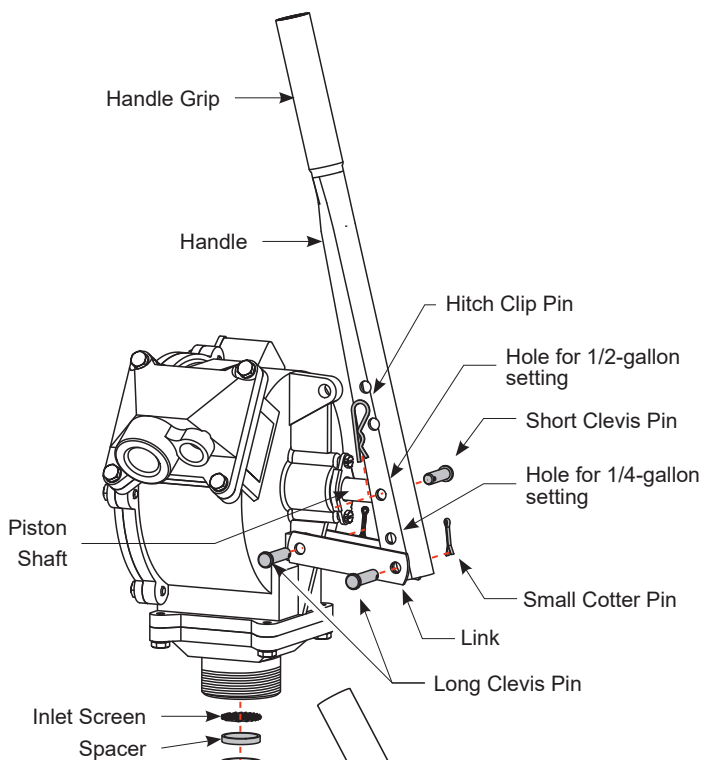
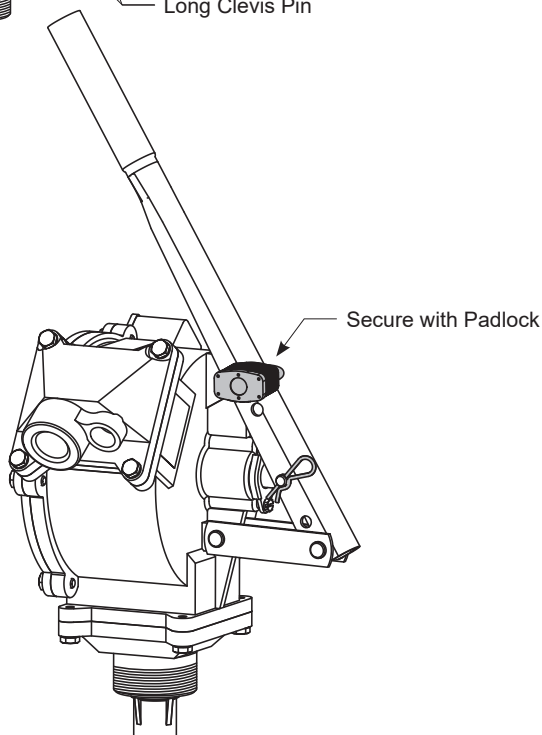

Figure 3
Figure 4
2. Insert the inlet screen (see Figure 3) into the inlet cover.
3. Place the spacer (see Figure 3) in the inlet cover to secure the inlet screen.
Refer to illustrations Figure 3 and Figure 4 on page 8.
2. To install the links on the pump, insert a long clevis pin through the link ends and the pump's link holes. Secure with a small cotter pin (see Figure 3).
3. Attach the free ends of the links to the bottom, outer surfaces of the handle. Insert a long clevis pin through the holes on both links and the lowest hole on the handle. Secure with a small cotter pin (see Figure 3).
5. Select the upper piston hole on the handle for the 1/2-gallon setting (see Figure 3) or the lower piston hole for the 1/4-gallon setting. Flow settings can be changed at any time by repositioning the piston shaft on the handle.
6. Lock the handle to the pump by pushing the handle against the pump and inserting a padlock through either of the top holes in the handle and through the pump's lock hole (see Figure 4).